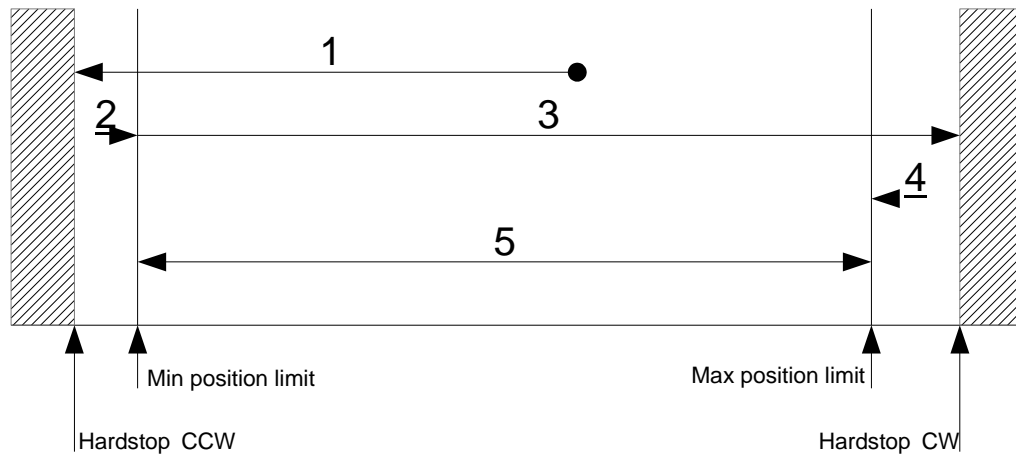

Figure 10: Double ended homing CCW
For this homing method, the motor is driving with a constant negative velocity (6099h:2) counterclockwise into a hardstop (1) as shown in Figure 10. While driving into the hardstop the actual motor current is measured and compared with the negative current threshold (2025h:4). If the negative current threshold is reached, the motor moves back by +PositionOffset\_CCW (2025h:3) encoder steps (2). There, the actual position (6064h) and the min position limit (607Dh:1) are set to 0 and the motor drives in the positive (clockwise) direction with a constant positive velocity (3). If the positive current threshold is reached, the motor moves back by -PositionOffset\_CW (2025h:2) encoder steps (4). Then the motor is stopped and the max position limit (607Dh:2) is set to the actual position value (6064h). The velocity is limited to (6099h:1).